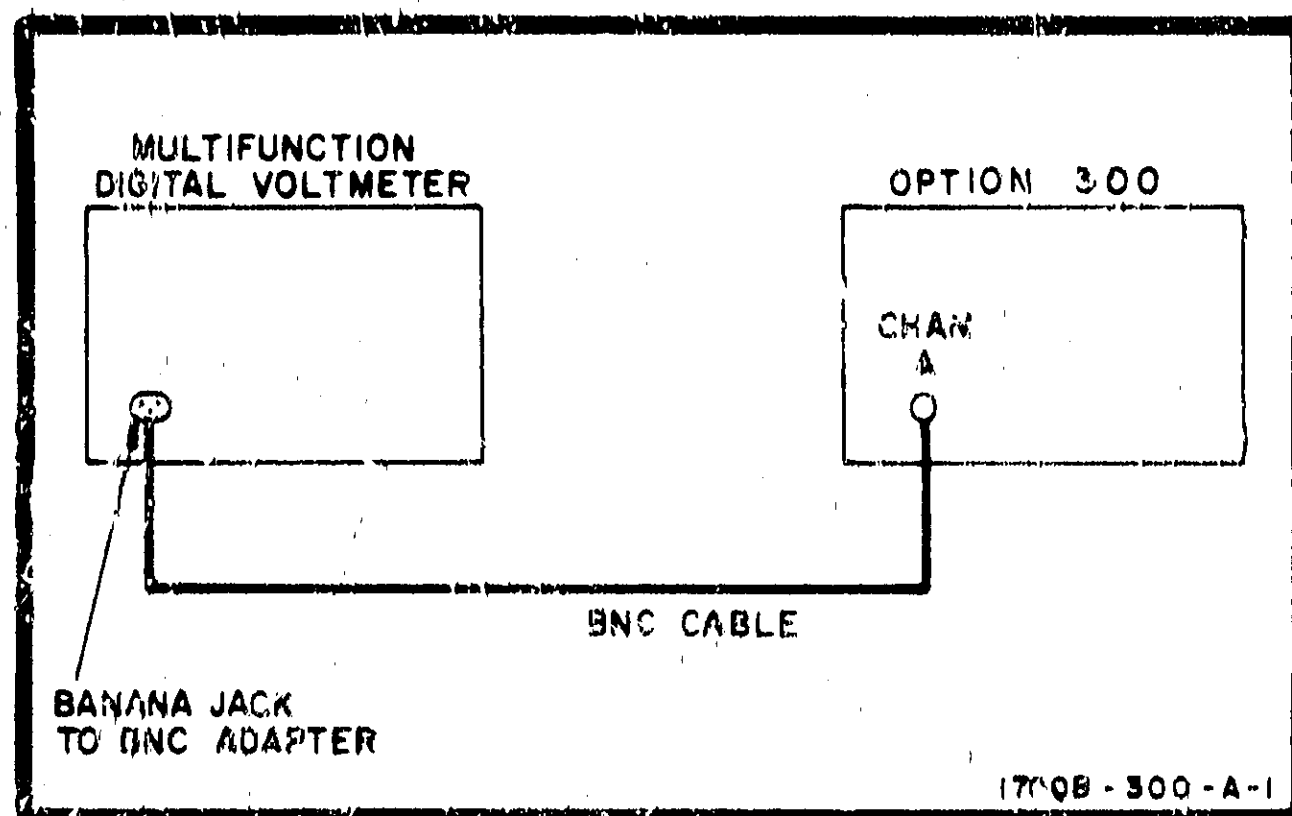

Figure 5-4. Input Resistance Test Setup
- a. Connect instruments as shown in figure 5-4.